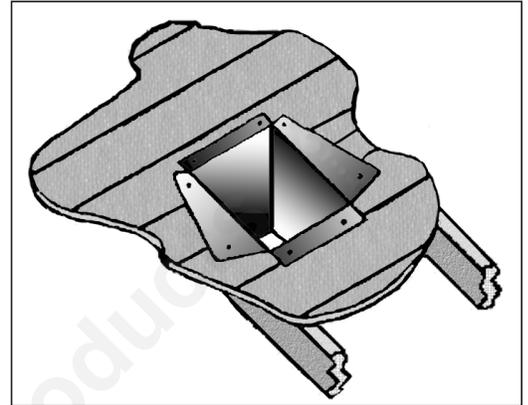

Figure 36: Cathedral Ceiling Support Box Installation.
- Using tin snips, cut the "Support Box" from the top corners down to the roof line, and fold the resulting flaps over the roof sheathing (Figure 36). Before nailing it in to the roof, run a bead of non-hardening mastic around the top edges of the "Support Box", to make a seal between the box and the roof. Clean out any combustible material from the inside of the "Support Box".